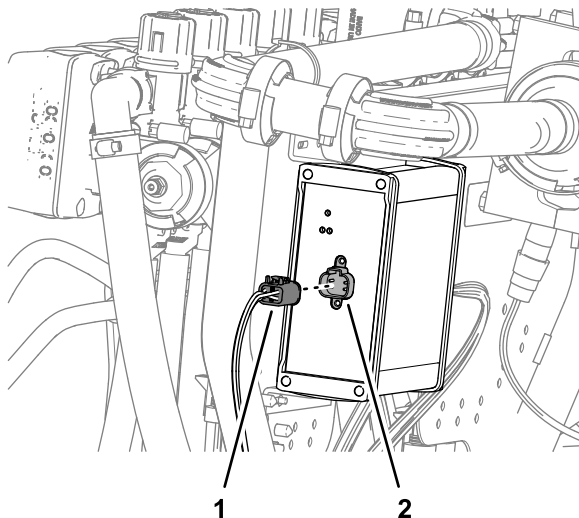

Figure 134
4. Insert the 4-socket connector labeled TO ASC 10 into the 4-pin connector of the ASC 10 spray controller (Figure 134).